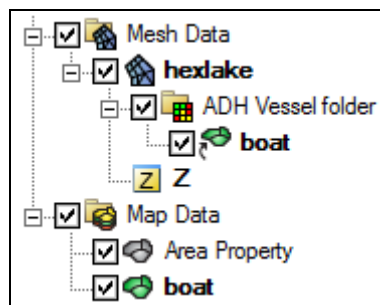

Figure 1 Project Explorer with “boat” link under mesh module
7. Drag the “ boat” coverage onto the “ hexlake” mesh. A link will be added under a new “ ADH Vessel folder” under the mesh (see Figure 1).